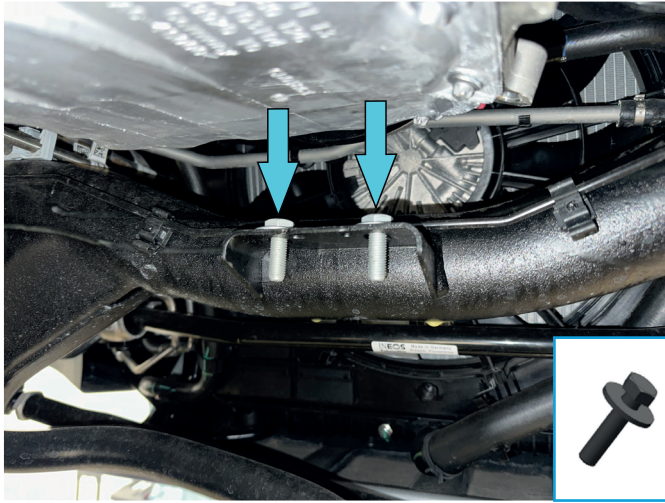

Fig. 1
1. Install bolts M10x30 with washers 10 (item B, E) into holes as shown in fig.1.